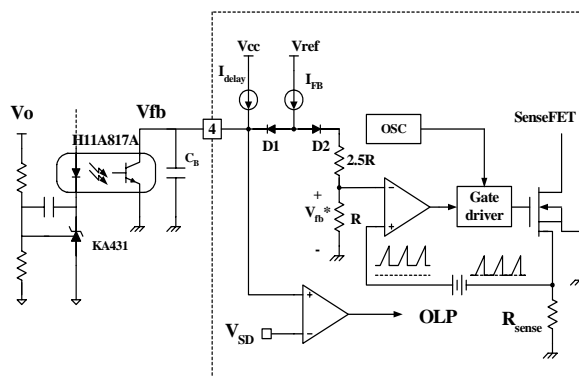

Figure 5. Pulse width modulation (PWM) circuit
**2. Feedback Control** : FSDM0565RB employs current mode control, as shown in Figure 5. An opto-coupler (such as the H11A817A) and shunt regulator (such as the KA431) are typically used to implement the feedback network. Comparing the feedback voltage with the voltage across the Rsense resistor plus an offset voltage makes it possible to control the switching duty cycle. When the reference pin voltage of the KA431 exceeds the internal reference voltage of 2.5V, the H11A817A LED current increases, thus pulling down the feedback voltage and reducing the duty cycle. This event typically happens when the input voltage is increased or the output load is decreased.
**2.1 Pulse-by-pulse current limit**: Because current mode control is employed, the peak current through the Sense FET is limited by the inverting input of PWM comparator ( $V_{fb}^*$ ) as shown in Figure 5. Assuming that the 0.9mA current source flows only through the internal resistor ( $2.5R + R = 2.8 \text{ k}\Omega$ ), the cathode voltage of diode D2 is about 2.5V. Since D1 is blocked when the feedback voltage ( $V_{fb}$ ) exceeds 2.5V, the maximum voltage of the cathode of D2 is clamped at this voltage, thus clamping  $V_{fb}^*$ . Therefore, the peak value of the current through the Sense FET is limited.